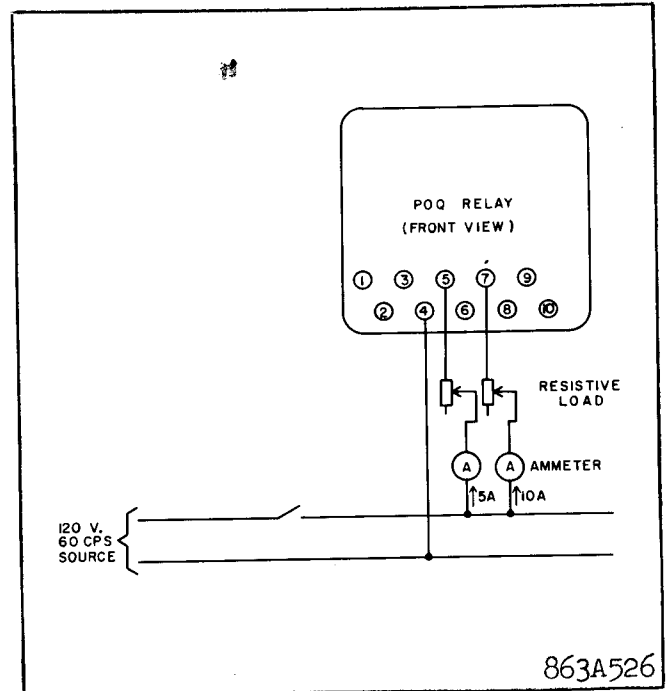

Fig. 6 Test connections for the Type POQ Relay.
To adjust the filter resistor tap for no response to zero sequence currents, remove tap screw from POQ unit. Pass 10 amperes into terminal 7, 5 amperes into terminal 5 and out terminal 4 per Fig. 6. Adjust the neutral filter resistor tap unit measured voltage is zero (refer to Fig. 2).
2. Minimum Trip Current — Connect the relay per Figure 6 and place the tap screw in 1 ampere tap.